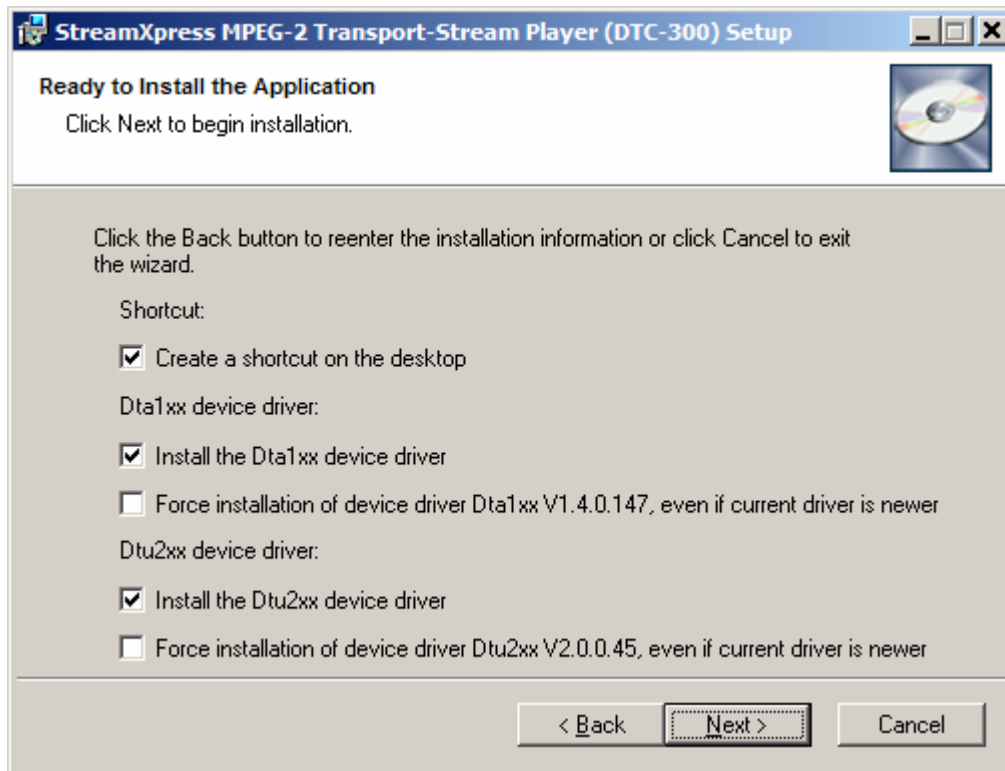

Figure 1 DTC-300 Driver Install
4. The installation is self-explanatory. The main thing to keep in mind is that you will be prompted to install a driver. Select the DTA-1xx driver, the DTU-2xx driver should not be selected unless installing the DTU-205 FantAsi (see Figure 1).
3. The installation is self-explanatory. The main thing to keep in mind is that you will be prompted to install a driver. Select the DTU-2xx driver, the DTA-1xx driver should not be selected unless installing DTA-1xx PCI cards (see Figure 1).